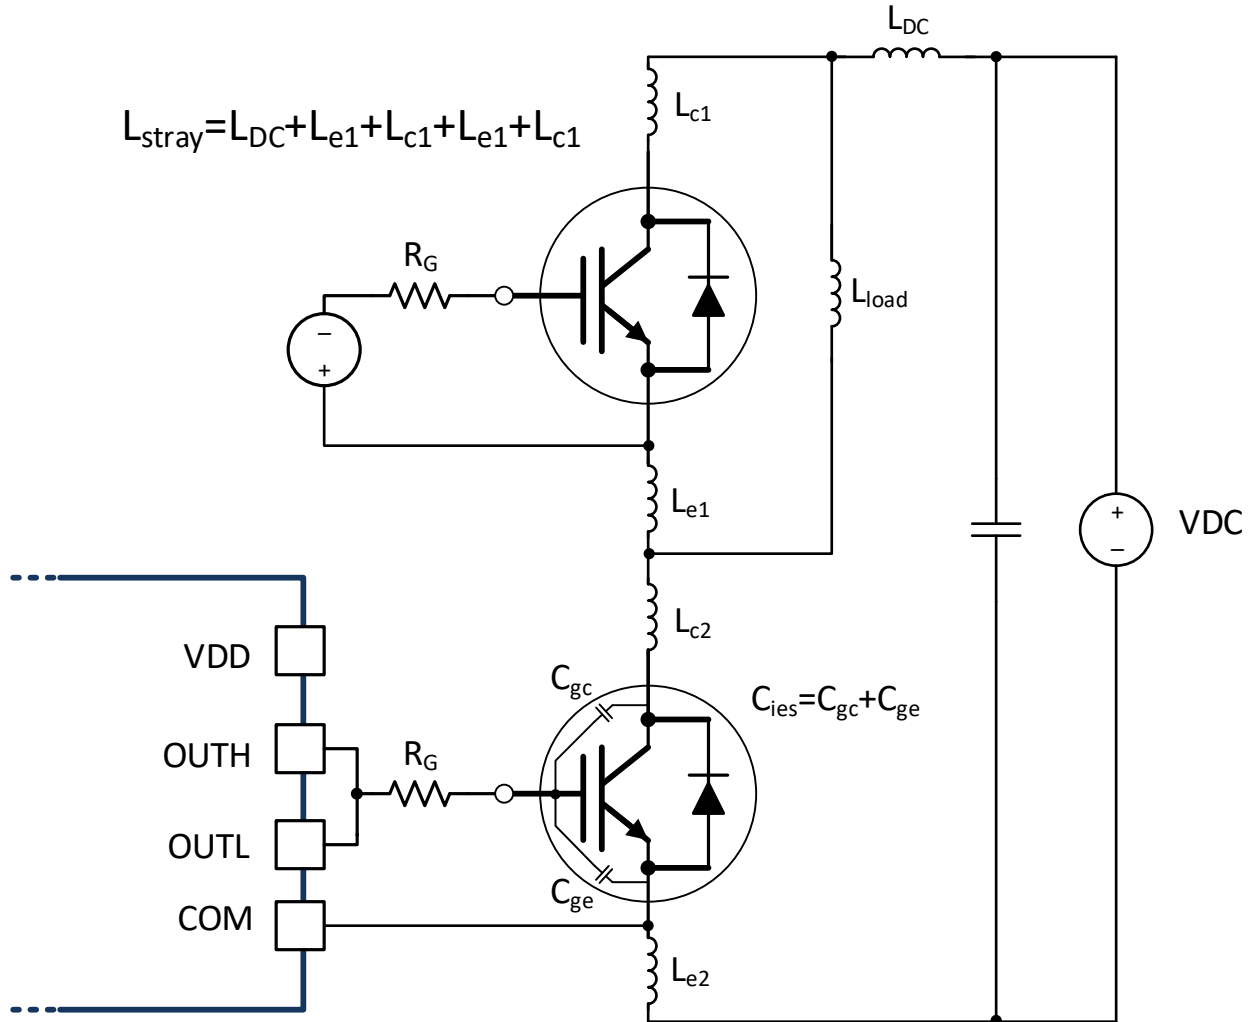

図 8-6. Stray Parasitic Inductance of IGBTs in a Half-Bridge Configuration
- $L_{\text{stray}}$  is the stray inductance in power switching loop, as shown in Figure 8-6